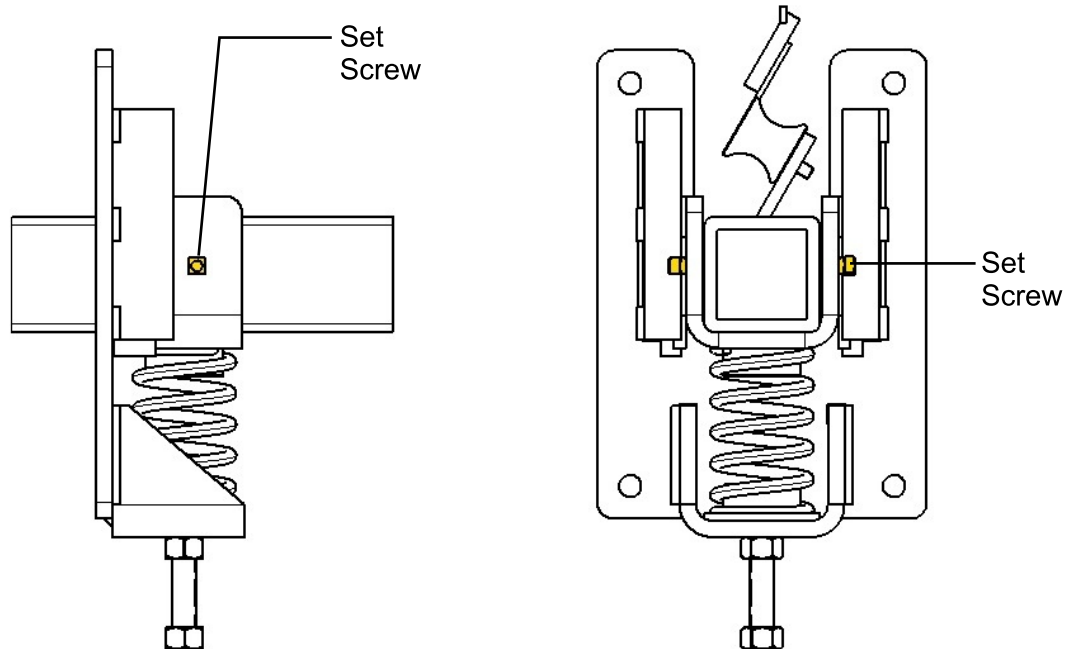

Figure 5: Tighten Set Screws
- With the Blade Tips centered on the belt, firmly tighten the set screws (to approximately 70 ft-lbs) on the Slide Blocks to affix the translation of the Mounting Tube. See Figure 5